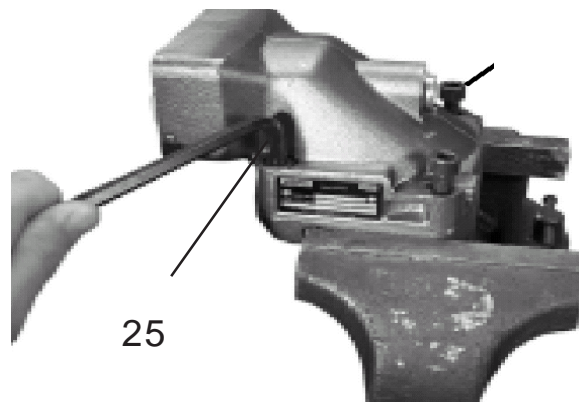

Figure 2
2. Remove Barrel Housing. Clamp Motor in a vise as shown in figure 1. There are 4 bolts (item 25) located on top of the Barrel Housing Assembly (item 1). Remove these four bolts. Lift Barrel Housing (item 1) as shown in Figure 2. Use caution to make certain the valve plate (Item 2) doesn't fall out when lifting the Barrel Housing off. By lifting straight up you should be able to use your finger to make certain the valve plate (item 2) does not fall out and get damaged. Make a note of which side of Valve plate is up and which side is down, this will be important during reassembly.